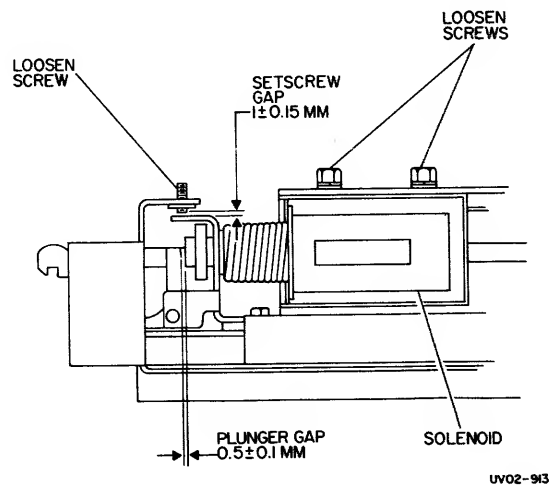

Figure 3-34. Solenoid Adjustment
6. POSITION THE SOLENOID TO OBTAIN A GAP OF 0.5 ± 0.1 MM AT THE END OF THE PLUNGER (Figure 3-34).